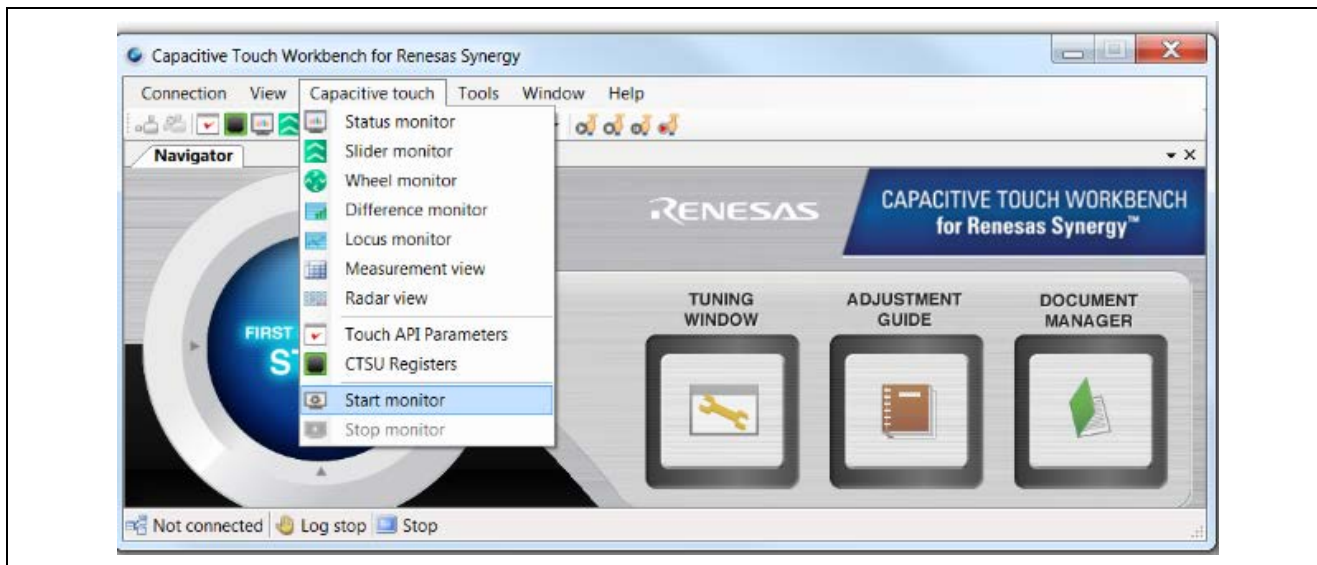

Figure 21. Start the Monitoring Process
1. Launch the CTW for Synergy program, select **Capacitive touch > Start monitor** (see Figure 21).
Figure 21 shows how to start the monitoring process with CTW for Synergy. You will see a different COM port enumeration if you are using Windows 10 instead of Windows 7. See section 5.4.2 to understand enumeration.